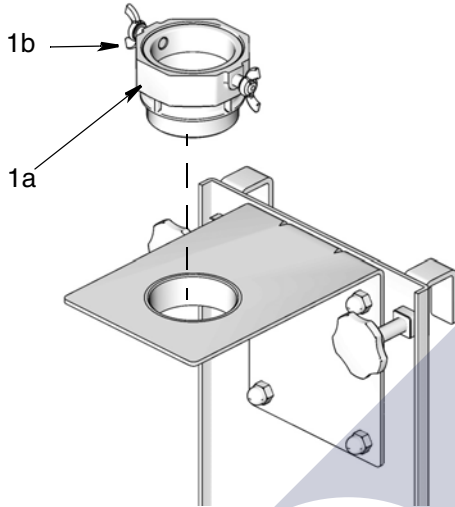
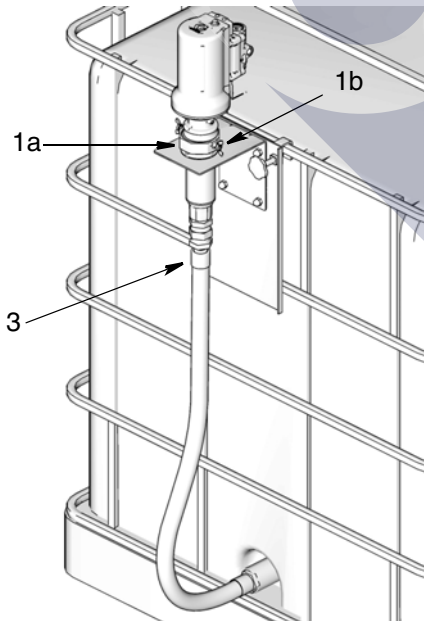

FIG. 13
FIG. 14
- Thread the pump bung adapter (1a) into hole in the pump bracket assembly. Hand tighten securely. (FIG. 13).
- Insert the pump (1) through bung adapter (1a) (FIG. 14). Secure the pump in place by tightening the gasket screws (1b) (FIG. 13 and FIG. 14).